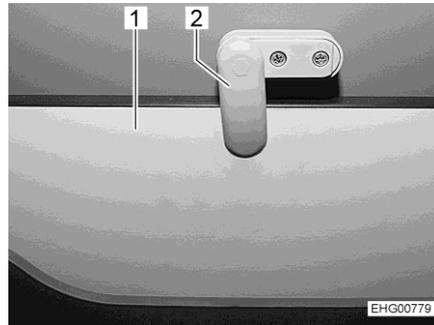

Fig. 66 Latch
- Release the locking device (Fig. 66,2).
- Fold out the access tread (Fig. 66,1).